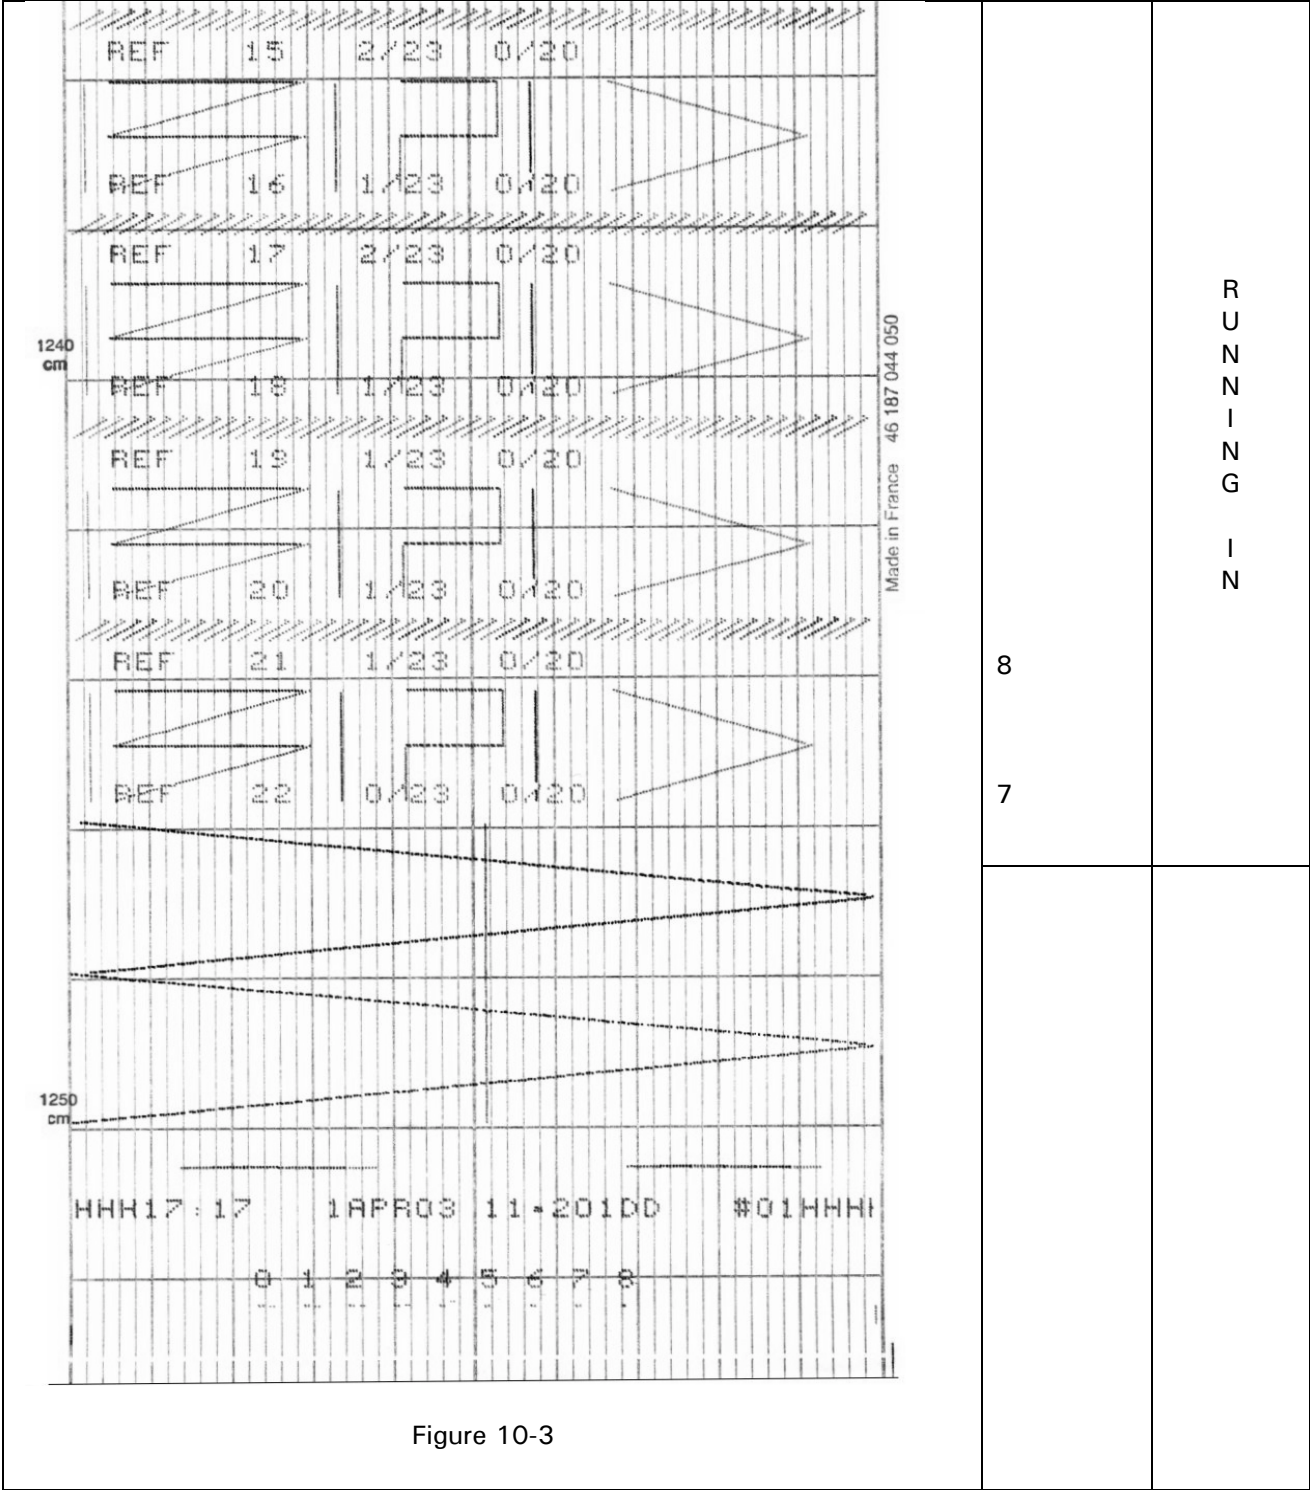

Figure 10-3
- ✓ As soon as the self-test begins, the DIAGNOSTIC starts and the RUNNING IN follows automatically. (See fig. 10-3)
- ✓ The figure 10-3 ref. 1 shows the test of mechanical extremes.
- ✓ The figure 10-3 ref. 2 shows the adjustment of the recorder.
- ✓ The figure 10-3 ref. 3 shows the check-test for the color adjustment.
- ✓ The figure 10-3 ref. 4 shows the message.
- ✓ The figure 10-3 ref. 5 shows the printing test.
- ✓ The figure 10-3 ref. 6 is composed of 3 serrated parts and each of them cut with a black line in the middle.
- ✓ The figure 10-3 ref. 6 shows the test for chart advance with a diagram written every 20 mm.
- ✓ The 2 different graphs are the following (See figure 10-3 ref 7 and 8)